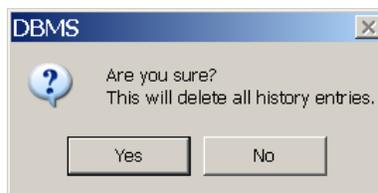

Figure 20. Database | Create History Dialog | Edit Menu | Clear History Message Box
- **Edit | Clear History** displays the warning message shown in *Figure 20*. Click **Yes** to clear the contents of the **History** dialog or **No** to cancel. This function **does not** delete any entries from the database, but rather entries in the **History** dialog. It's handy for starting over when creating a history file.